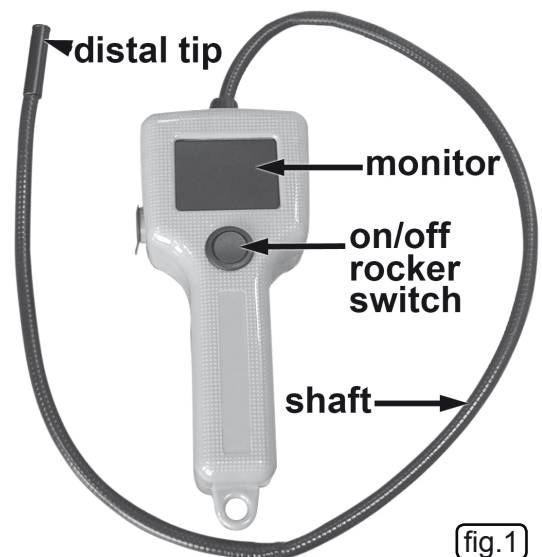

fig.1
- 4.1.1 Hold the unit by the housing and toggle the rocker switch down (fig.1). This turns the distal camera, lighting, and monitor on.
- 4.1.2 Manipulate the shaft (fig.1) toward the area under investigation while viewing the monitor. The shaft can be manoeuvred and manipulated into more complex paths.